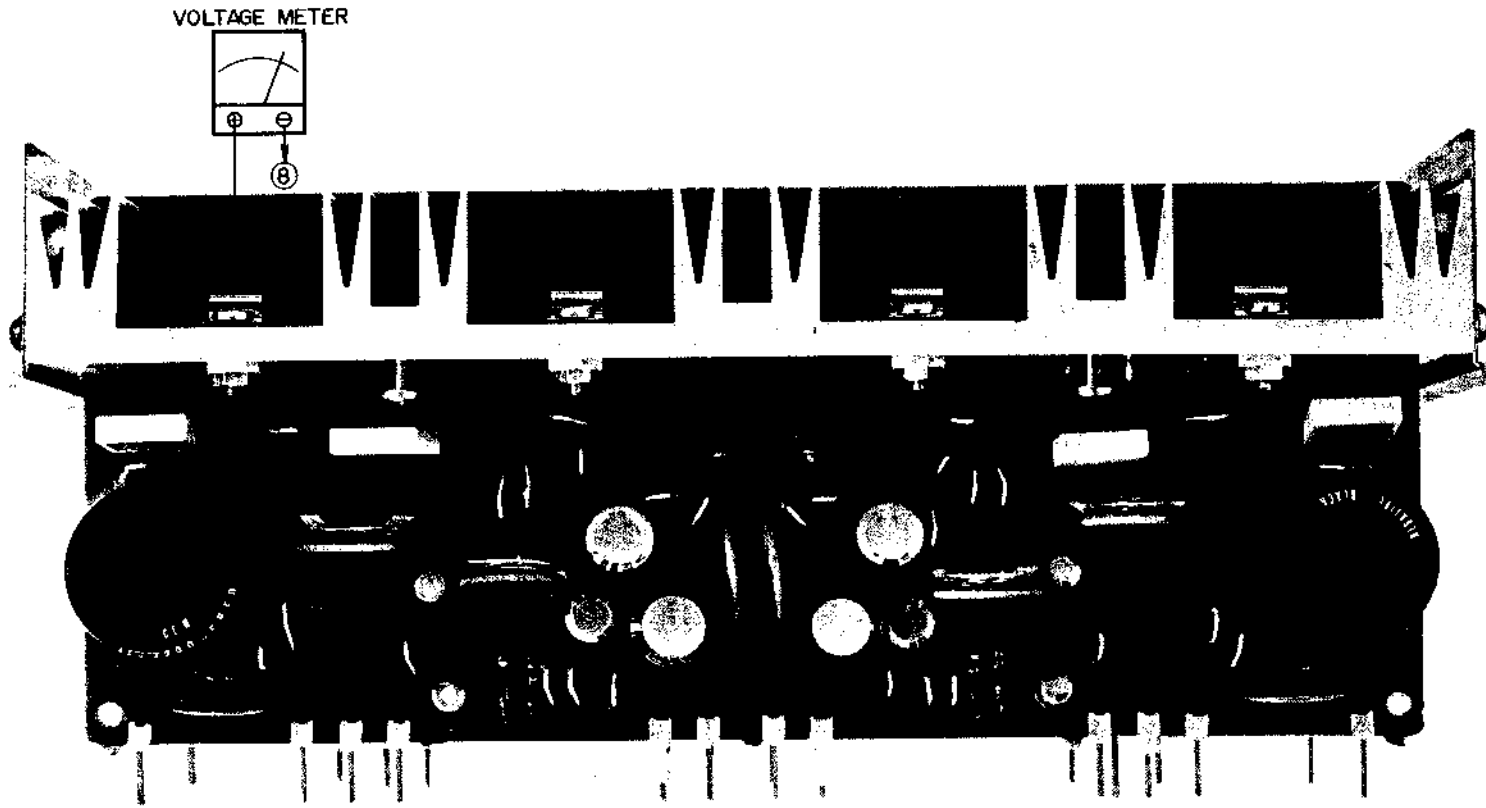

Fig. 19
- 3) Adjust Power Amp. P.C. Board semi-fixed resistor VR2 100B shown in Fig. 19 to obtain an Ampere Meter indication of 40 mA.
- 1) Connect Voltage Meter to Power Amp. P.C. Board TR6 Collector and terminal 8 shown in Fig. 19.
- 2) Adjust Power Amp. P.C. Board semi-fixed resistor VR1 30 kB shown in Fig. 19 so that the Voltage Meter indication is  $1/2$  of the supply voltage value.